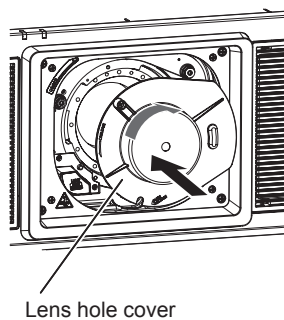

Fig. 2
- 3) Attach the supplied lens hole cover. (Fig. 2)**